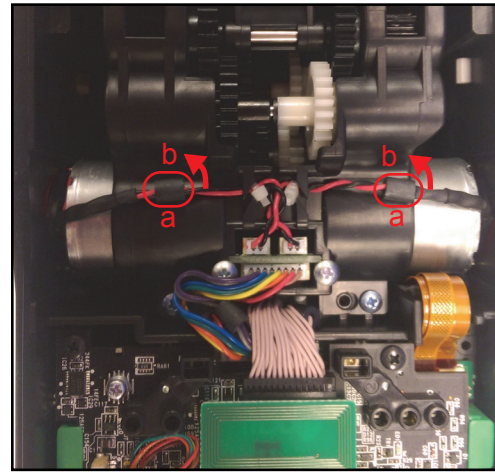

Figure 3: Position Ferrite Cores (a) against the Rear Rib of the Housing (b)
1. Reposition the Ferrite Cores (**Figure 3 a/b**).